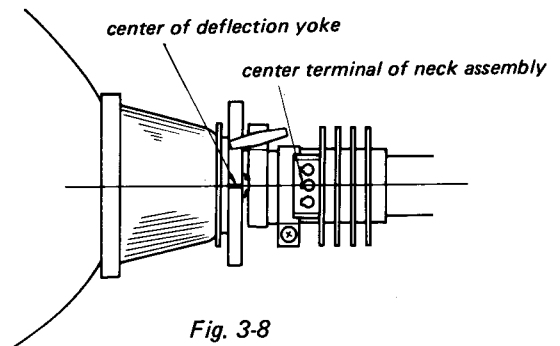

Fig. 3-8
- 4) Position the neck assembly as shown in Fig. 3-8.
- 6) Position the neck assembly <G> as shown in Fig. 3-8. Tighten the neck assembly screw in position.